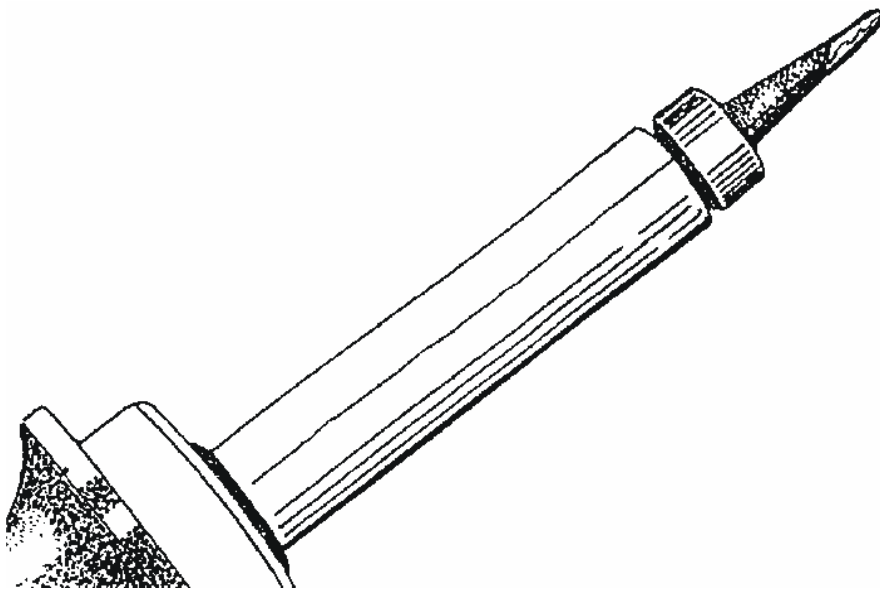

Figure A-1. Tip Prepared for Soldering
b. Tin the iron by applying rosin-core solder to its clean surface. The melted solder should completely cover the surface. Wipe the excess solder from the tip with a very damp sponge, using quick strokes so that the sponge does not burn. Figure A-1 shows a tip prepared for soldering.